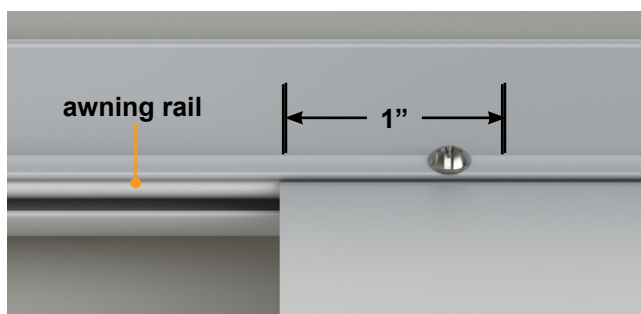

Fig.5
9. Secure the fabric in the awning rail no more than 1" inside the edge of the fabric on both ends using a #6 x 1/2" hex head screw. Install the screw down through the awning rail into the fabric and the polycord, (Fig.5).